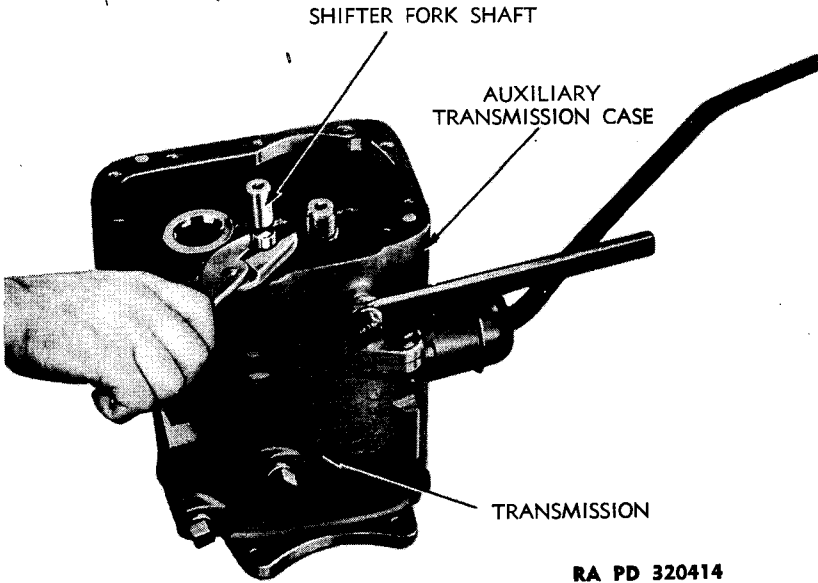

Figure 8 — Shifter Fork Shaft
c. Remove Sliding Gear. Pull out shifter fork shaft (fig. 8). This will release shifter fork, detent ball, and spring. Turn shifter fork toward top of case, and lift out sliding gear and shifter fork